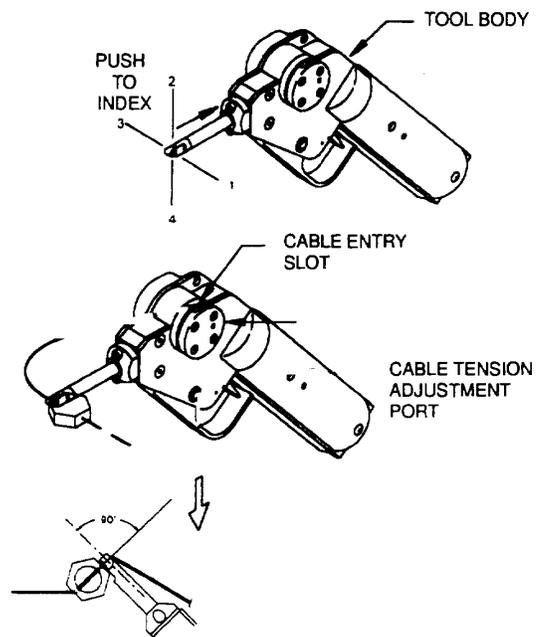

Figure 2-99. Pneumatic Safety Cable Application Tool
c. The Pneumatic Safety Cable Application Tool. (See figure 2-99). Connect the pneumatic safety cable tool to a clean, dry air supply of 80 to 100 psi.
(1) Install the safety cable through the fasteners which are to be secured.
(2) The nose can be indexed to four positions in 90° increments. To select the position, push the nose in towards the tool and rotate to the desired position. Release the nose. If the nose does not lock into the indexed position, turn it slightly until it snaps into position and locks.